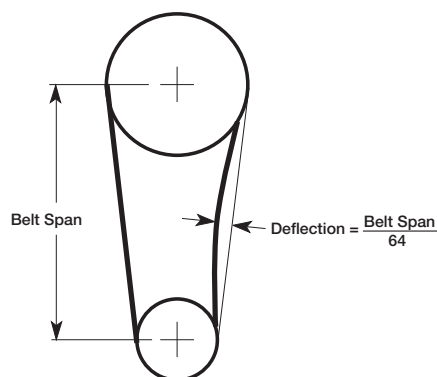
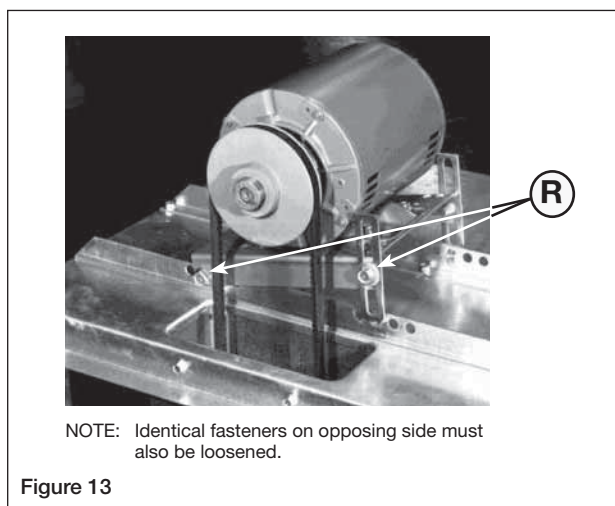

Figure 12
Figure 13
5. **For BSQ Fans:** Belt tension can be adjusted by loosening four fasteners marked “R” on the drive frame. (refer to Figure 13). The motor plate slides on the slotted adjusting arms. Belt tension should be adjusted to allow 1/64 inch of deflection per inch of belt span. For example, a 15 inch belt span should have 15/64 inch (or about 1/4 inch) of deflection with moderate thumb pressure at mid-point between pulleys (see Figure 12). Over-tightening will cause excessive bearing wear and noise. Too little tension will cause slippage at start-up and uneven wear.